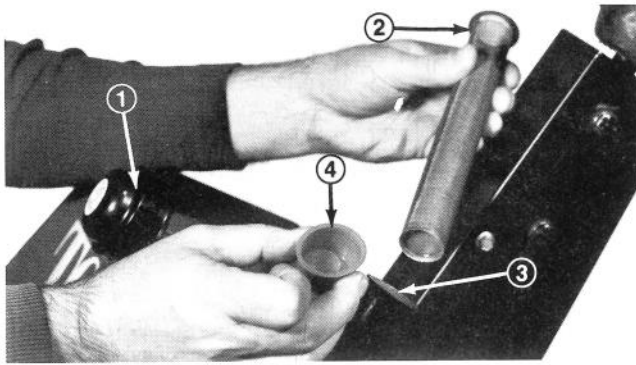

Figure 80
1. Start engine, lower cutting units and stop engine, remove breather cap from hydraulic reservoir, remove filler screen and install Toro Part No. 2410-45 Caplug into hole in reservoir (Fig. 80). Plug will prevent excessive oil loss.